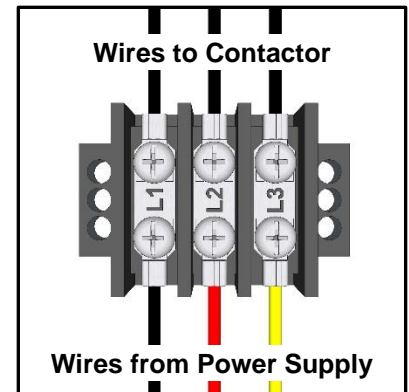

Figure 7
- 1** Have your certified electrician connect power to the 3 terminal T-bar and ground wire to grounding block. (see **Figure 7**)